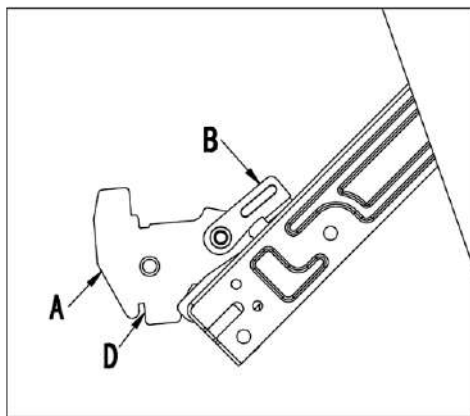

Fig. 1
- Open the door completely and lift the 2 levers “B” (fig. 1);